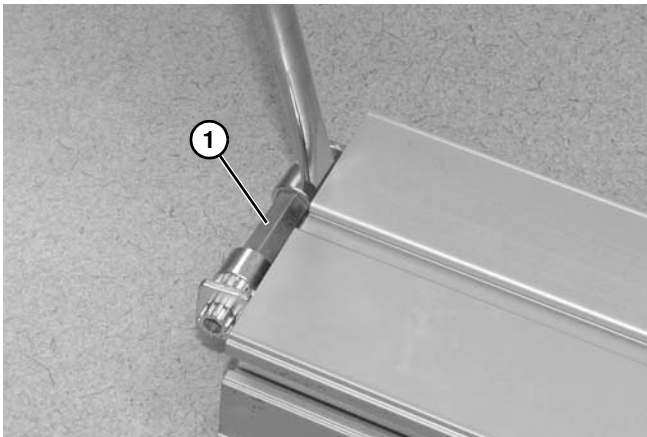

Figure 108
3. Pry pinion assembly (**Figure 108, item 1**) from conveyor frame by alternating sides.